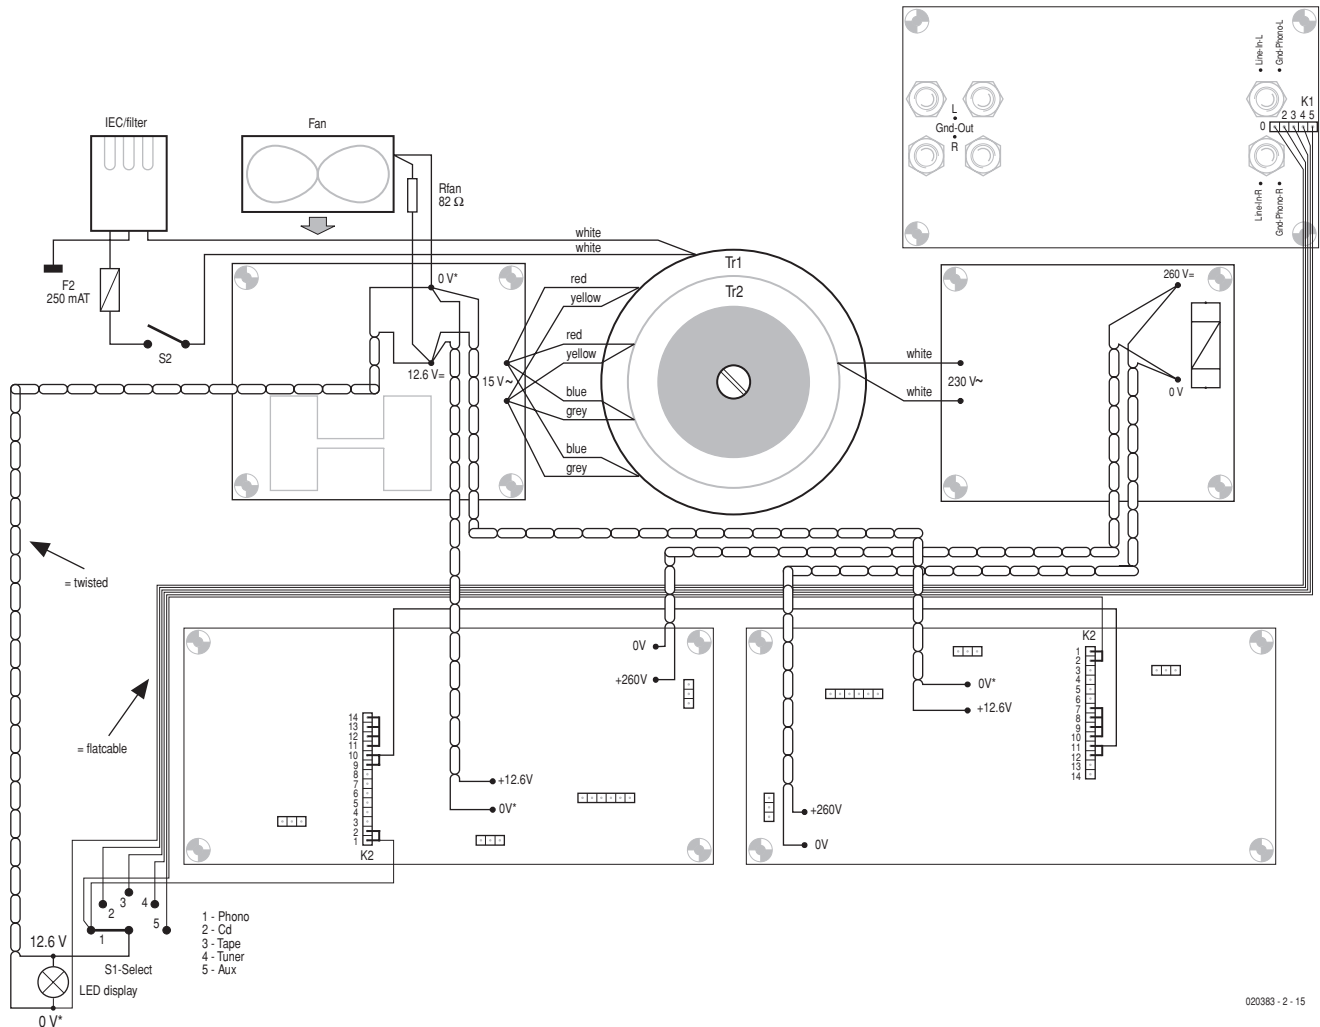

Figure 4. Connection diagram for the power wiring.
**Figure 4** shows how the power wiring of the preamplifier should be fitted. Start by connecting the transformers to the power supply circuit boards, fitting the wiring for the cooling fan and making the mains voltage connections between the IEC appliance receptacle and the switch, fuse and mains filter. Connect the filter terminal to a solder lug screwed to the channel section. Next, make the connections to the filament and high-voltage terminals using twisted-pair wiring passing through the feedthrough bushings. Fit the 'filament' jumpers to the K2 connectors on the circuit boards and connect the filaments of the EF86s in series with a length of wire. This wire is routed through the cable duct. Finally, connect the LED indicator lamp and the input selector switch (S1). Terminal 1 of S1 connects directly to K2/1-2 on the left-hand amplifier board, and then to K2/1-2 on the right-hand amplifier board via a length of flat cable. This six-way flat cable (which is reduced to 5 leads before continuing to the I/O board) also runs through the cable duct.